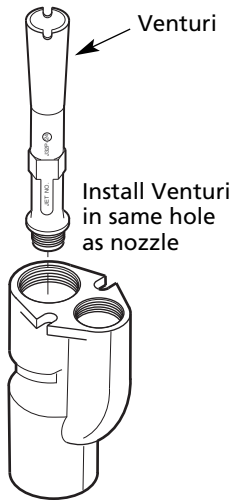

Figure 4
4. Install venturi in ejector body. Venturi threads into second set of threads in ejector discharge port (over nozzle). End of venturi will extend out of port when it is installed (see Figure 4).